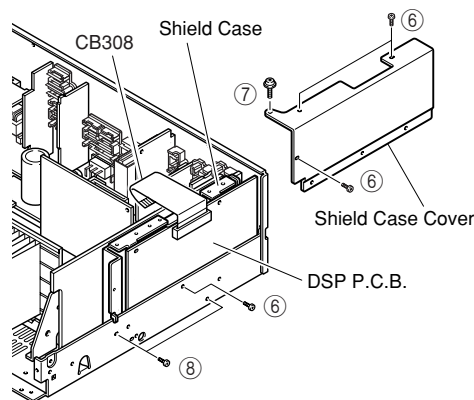

Fig. 2
- Remove 4 screws (6) and 1 screw (7), and then remove the Shield Case Cover. (Fig. 2)
- Remove 2 screws (8). (Fig. 2)
- Remove CB308. (Fig. 2)
- Remove the Shield Case Cover and the DSP P.C.B.. (Fig. 2)